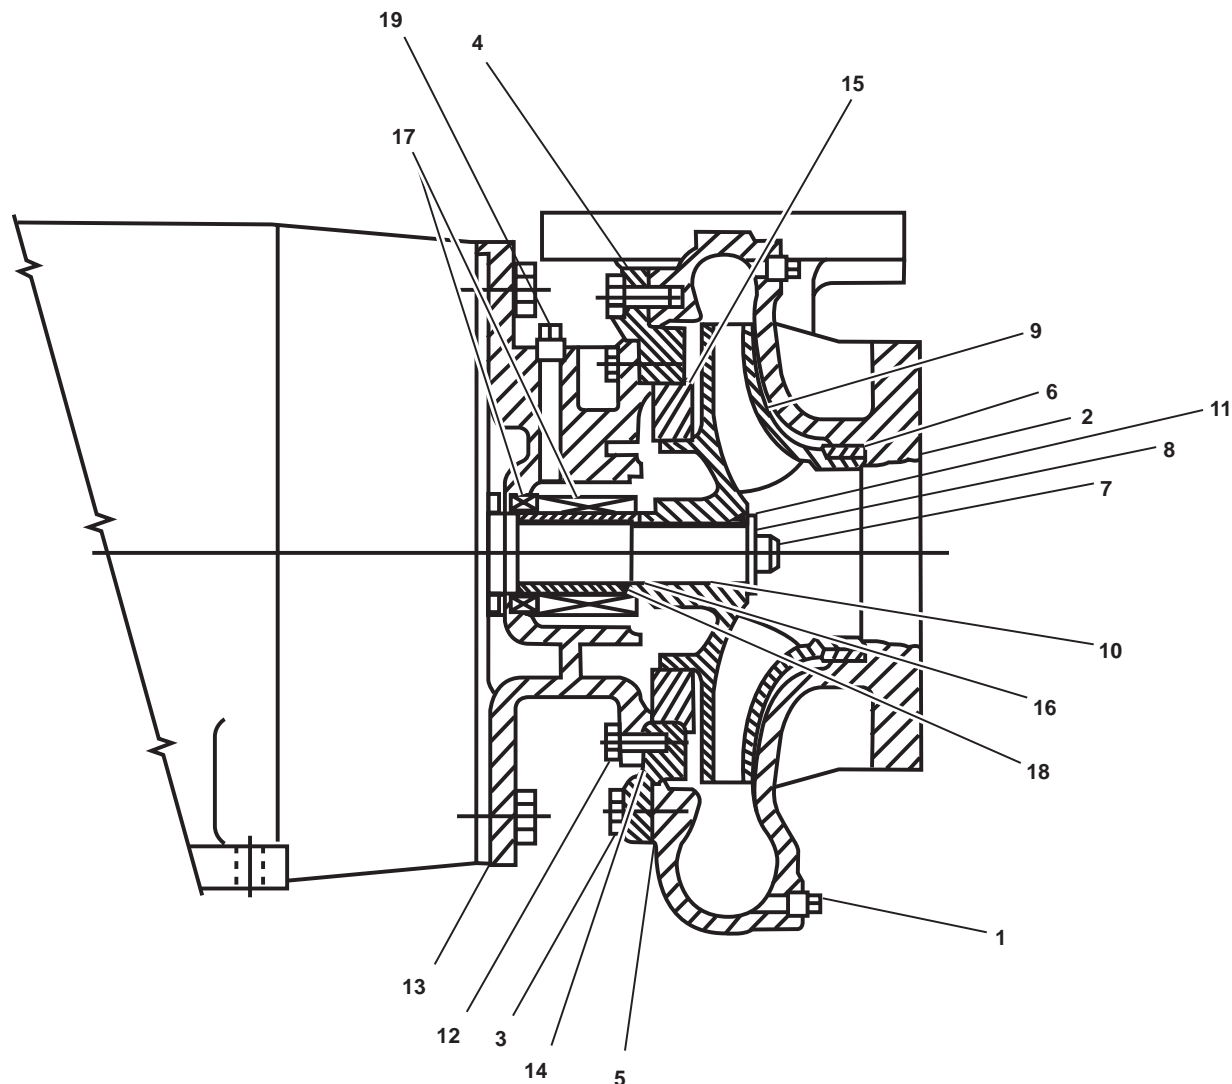

Figure 1. Potable Water Pump Disassembly
3. Remove the drain plug (figure 1, item 1) from the volute (figure 1, item 2).
4. Remove the cap screws (figure 1, item 3) securing the backplate (figure 1, item 4) to the volute (figure 1, item 2). Separate the volute from the backplate.
5. Remove the casing gasket (figure 1, item 5) from the volute (figure 1, item 2). Discard the gasket.
6. Remove the front plate wear ring (figure 1, item 6) from the volute (figure 1, item 2). Discard the front plate wear ring.
7. Remove the impeller screw (figure 1, item 7) and the impeller washer (figure 1, item 8).
8. Remove the impeller (figure 1, item 9) from the shaft (figure 1, item 10). Remove the key (figure 1, item 11) from the impeller.
9. Remove the cap screws (figure 1, item 12) securing the backplate (figure 1, item 4) to the bracket (figure 1, item 13). Separate the backplate from the bracket.
10. Remove the backplate gasket (figure 1, item 14) from the backplate (figure 1, item 4). Discard the backplate gasket.
11. Remove the rear case wear ring (figure 1, item 15) from the backplate (figure 1, item 4). Discard the rear case wear ring.
12. Remove the snap ring (figure 1, item 16) from the shaft (figure 1, item 10).
13. Remove the mechanical seal (figure 1, item 17) from shaft (figure 1, item 10).
14. Remove the sleeve (figure 1, item 18) from the shaft (figure 1, item 10).
15. Remove the stuffing box plug (figure 1, item 19) from the bracket (figure 1, item 13).
2. Install the stuffing box plug (figure 1, item 19) in the bracket (figure 1, item 13).
3. Install the shaft sleeve (figure 1, item 18) over the shaft (figure 1, item 10).
4. Install the new mechanical seal (figure 1, item 17) on the shaft (figure 1, item 10).
5. Install the snap ring (figure 1, item 16) on the shaft (figure 1, item 10).
6. Install the new rear case wear ring (figure 1, item 15) on the backplate (figure 1, item 4).
7. Install the new backplate gasket (figure 1, item 14) on the backplate (figure 1, item 4).
8. Install the backplate (figure 1, item 4) on the bracket (figure 1, item 13). Install the cap screws (figure 1, item 12) into the backplate. Tighten the cap screws.
9. Install the key (figure 1, item 12) into the impeller (figure 1, item 9). Install the impeller (figure 1, item 9) on the shaft (figure 1, item 10).